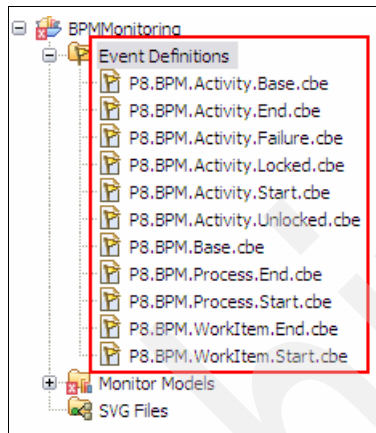

Figure 7-72 Event Definitions
9. In the Project Explorer, expand **BPMMonitoring** → **Event Definitions**. You see the predefined process and activity events (Figure 7-72). The details of these events are provided in 7.5, “FileNet P8 BPM Common Base Event events” on page 381.